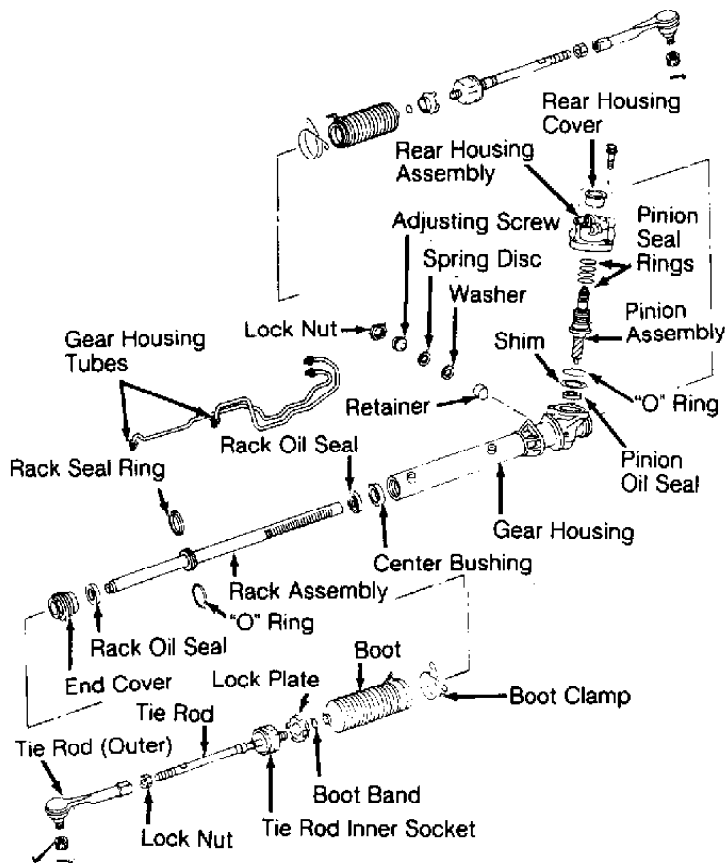

Fig. 8: Exploded View Of Power Rack & Pinion
2) Pry up staked portion to tie rod inner sockets. Remove tie rod inner sockets. Remove lock plates. Remove rear housing cover. Remove pinion assembly. Remove pinion adjusting screw lock nut and adjusting screw. Remove spring (if equipped), spring disc, washer, spring seat (if equipped) and retainer. See Fig. 8.